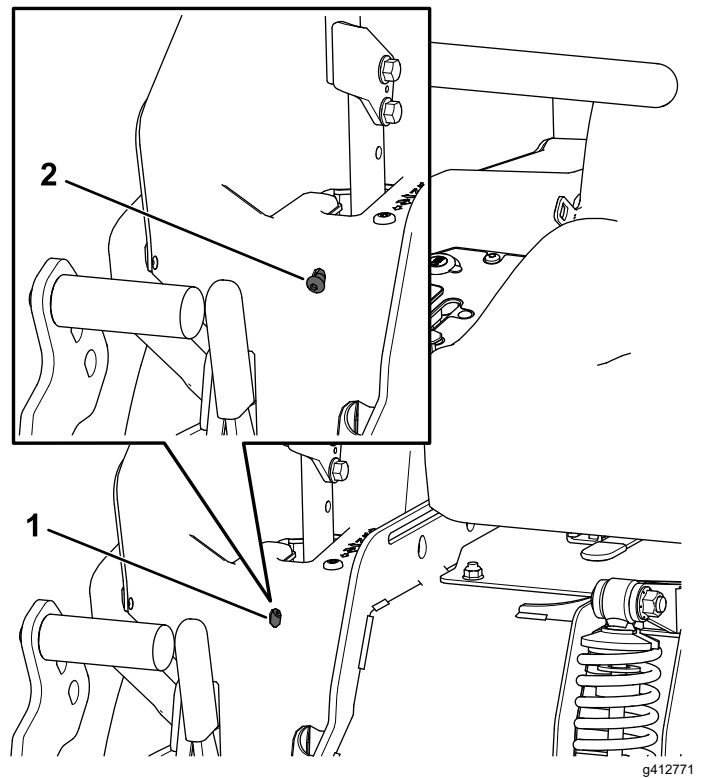

Figure 60
6. If the machine tracks to the right, insert a 3/16 inch hex wrench through the access hole in the left, front cover panel and rotate the tracking screw clockwise or counterclockwise to adjust the travel of the lever (Figure 60).
7. If the machine tracks to the left, insert a 3/16 inch hex wrench through the access hole in the right, front cover panel and rotate the tracking screw clockwise or counterclockwise to adjust the travel of the lever (Figure 60).